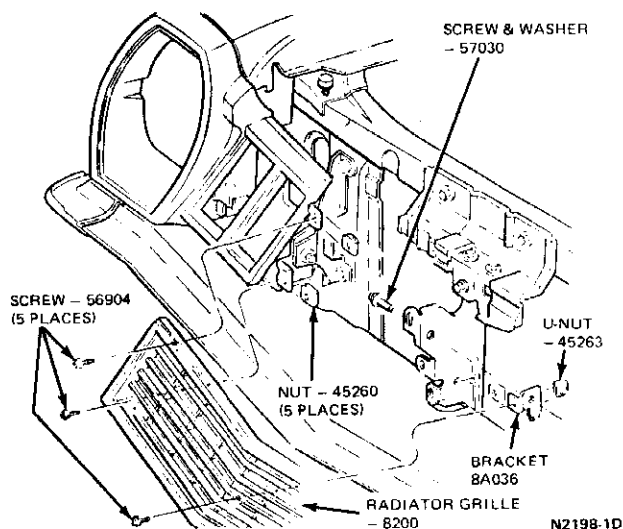

FIG. 1 Radiator Grille—Pinto
1. Open hood and remove grille attaching screws (Fig. 1), and remove the grille.